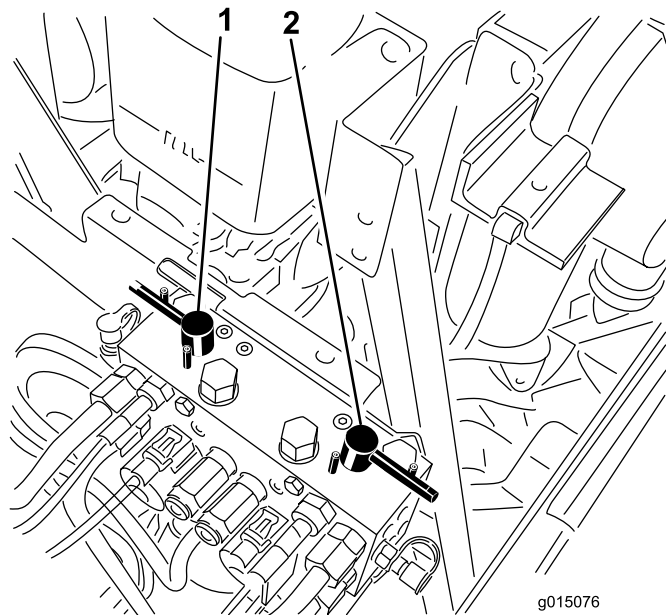

Figure 120
4. Select either front, rear, or both backlap levers to determine which units to backlap (Figure 120).